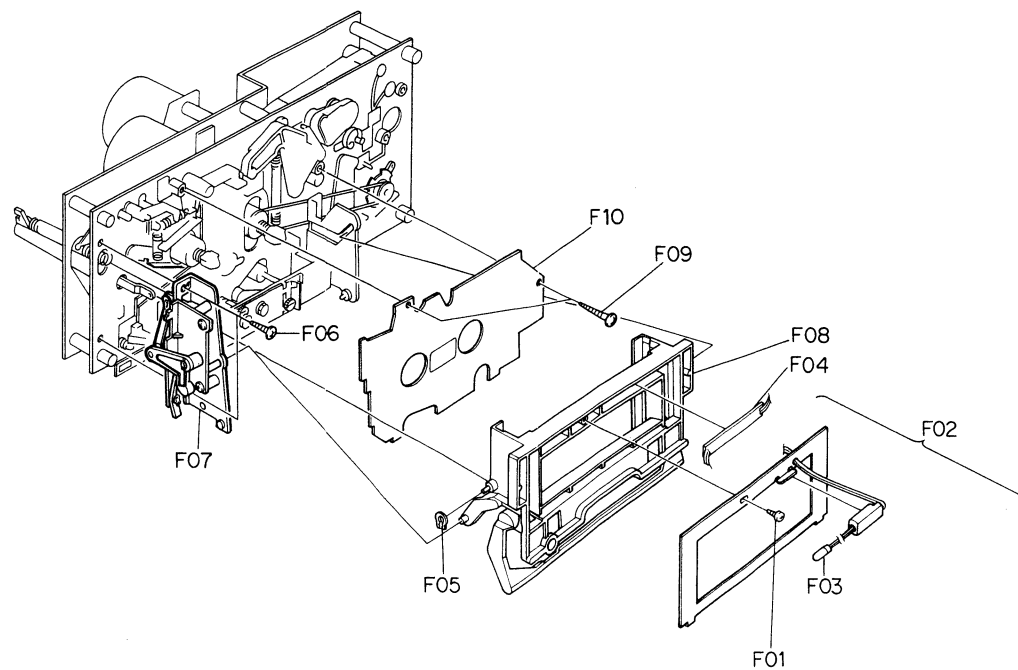

Fig. 2.6
Refer to Fig. 2.6.
- (1) Refer to Fig. 2.6. Remove Cassette Case Ass'y referring to item 2.13.
- (2) Remove F01, then disassemble F02 (Head Mount Base Ass'y).